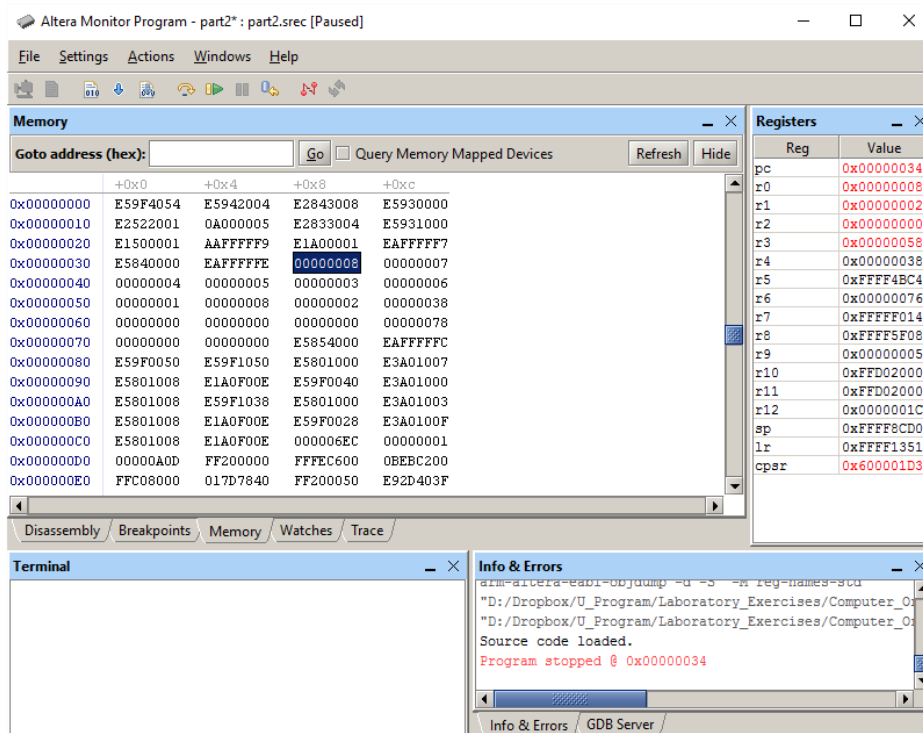

Figure 12: Displaying the result in the memory tab.
5. Execute the program. When the code is running, you will not be able to see any changes (such as the contents of registers or memory locations) in the Monitor Program windows, because the Monitor Program cannot communicate with the ARM processor while code is being executed. But, if you pause the program then the Monitor Program windows will be updated. Pause the program using the icon  and observe that the processor stops within the endless loop **END: B END**. Note that the largest number found in the sample list is 8 as indicated by the contents of register R0. This result is also stored in memory at the label **RESULT**. As discussed above, the address of the label **RESULT** for this program is 0x00000038. Use the Monitor Program's Memory tab, as illustrated in Figure 12, to verify that the resulting value 8 is stored in the correct location.